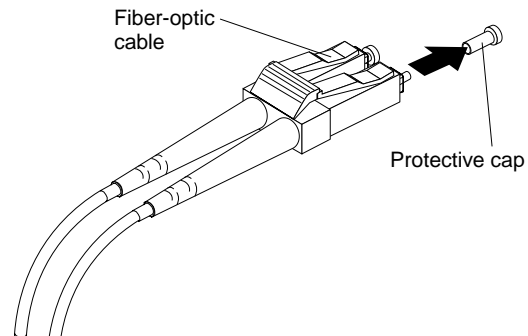

Figure 16. Removing fiber-optic cable protective caps
3. Remove the two protective caps from one end of the LC-LC cable, as shown in Figure 16. Save the protective caps for future use.
5. Remove the two protective caps from the other end of the LC-LC cable, as shown in Figure 16 on page 20. Save the protective caps for future use.